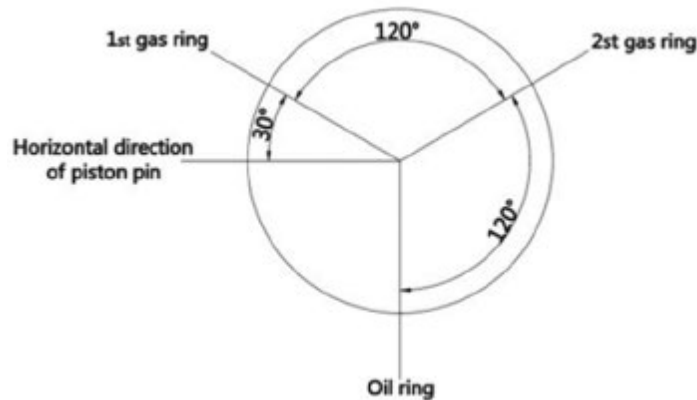

Figure 115.
- Ensure the piston ring gaps are located correctly (Figure 115).